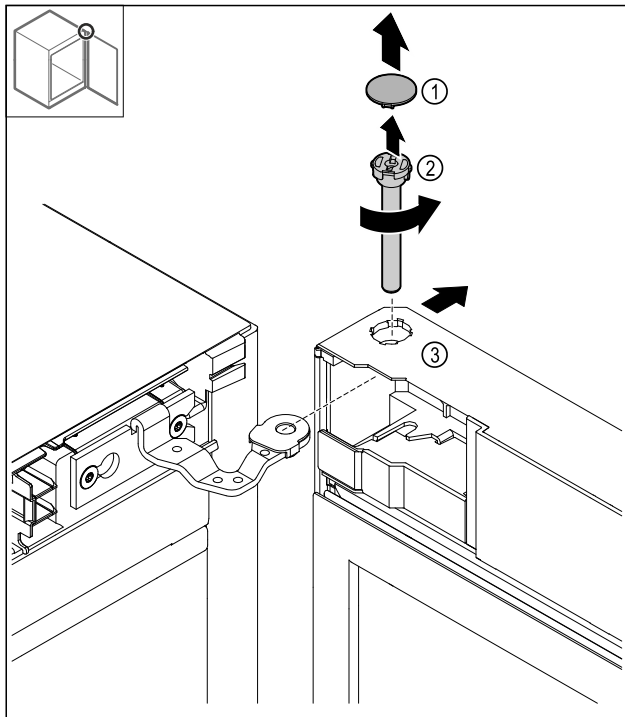

Fig. 9
- Removing the cover Fig. 9 (1).
- Loosen the bolt Fig. 9 (2) anti-clockwise and pull it out.
- Tilt the door Fig. 9 (3) slightly.